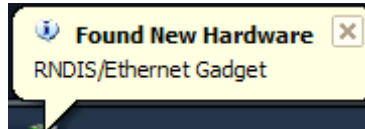
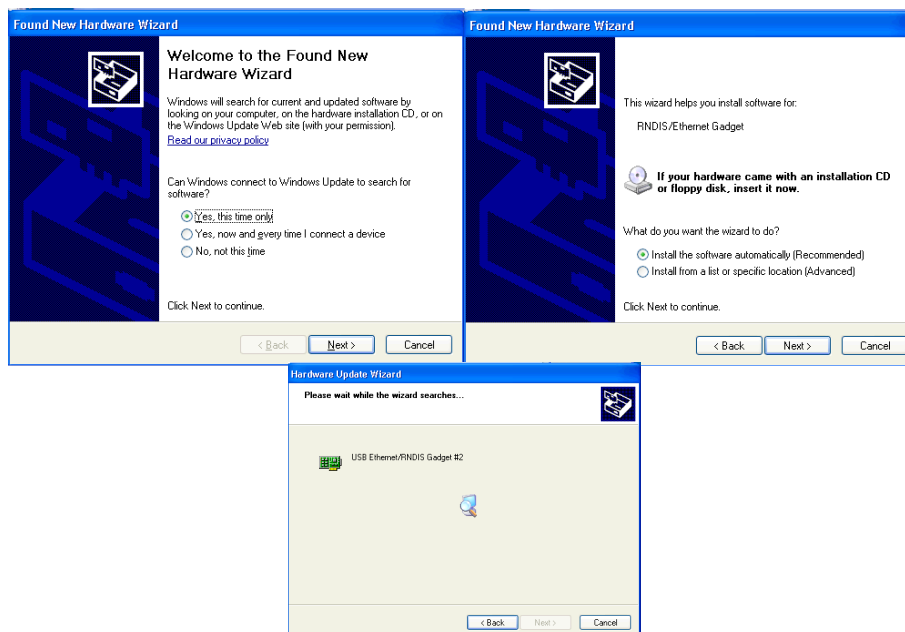

Figure 2-3. Windows XP Found New Hardware Popup
Figure 2-4. Windows XP Found New Hardware Wizard
1. When the "Found New Hardware" dialog appears, as shown in Figure 2-3 and Figure 2-4, allow Windows Update to search for the software.
2. Select "Install the software automatically (Recommended)" and click "Next." See Figure 2-4.